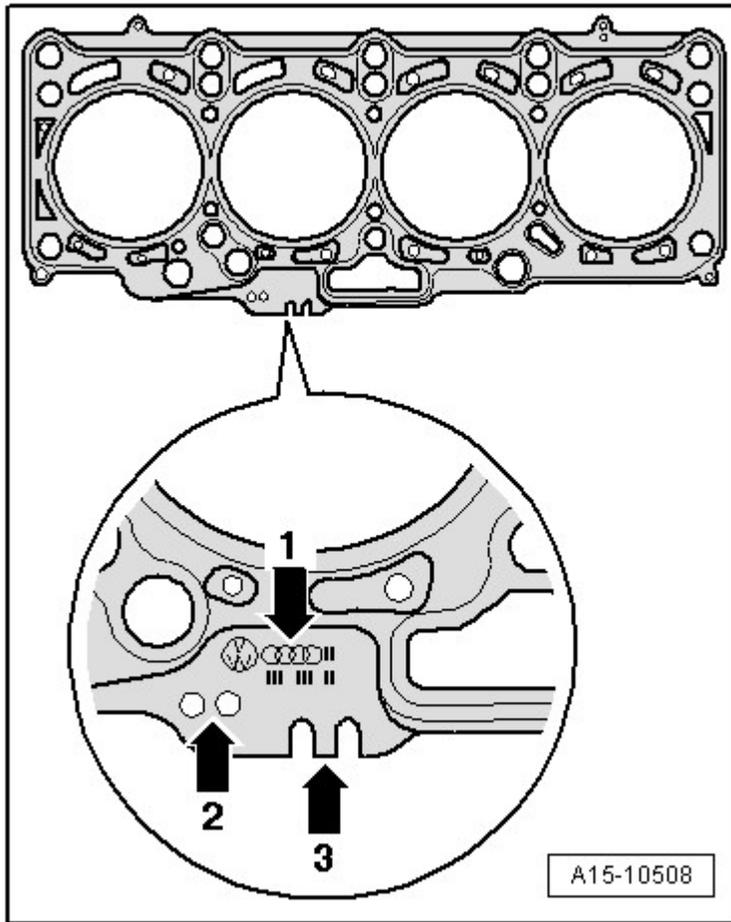

Fig. 7: Identifying Cylinder Head Gasket Identification
- Cylinder head gasket identification **Fig. 7**